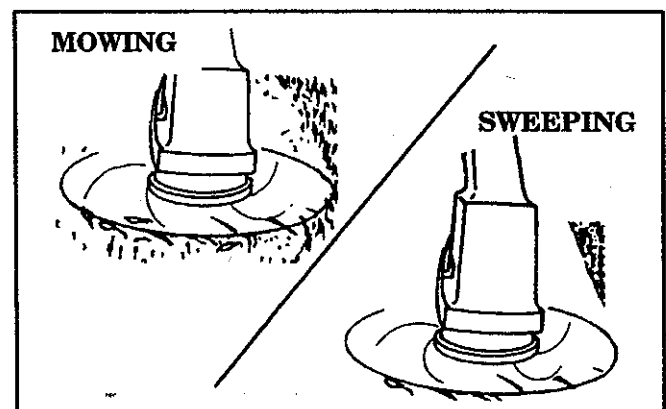

Figure 10
3. **MOWING** - Figure 10. Your trimmer is ideal for mowing in places conventional lawn mowers cannot reach. In the mowing position, keep the line parallel to the ground. Avoid pressing the head into the ground as this can scalp the ground and damage the unit.
4. **SWEEPING** - Figure 10. The fanning action of the rotating line can be used for a quick and easy clean up. Keep the line parallel to and above the surfaces being swept and move the unit from side to side.